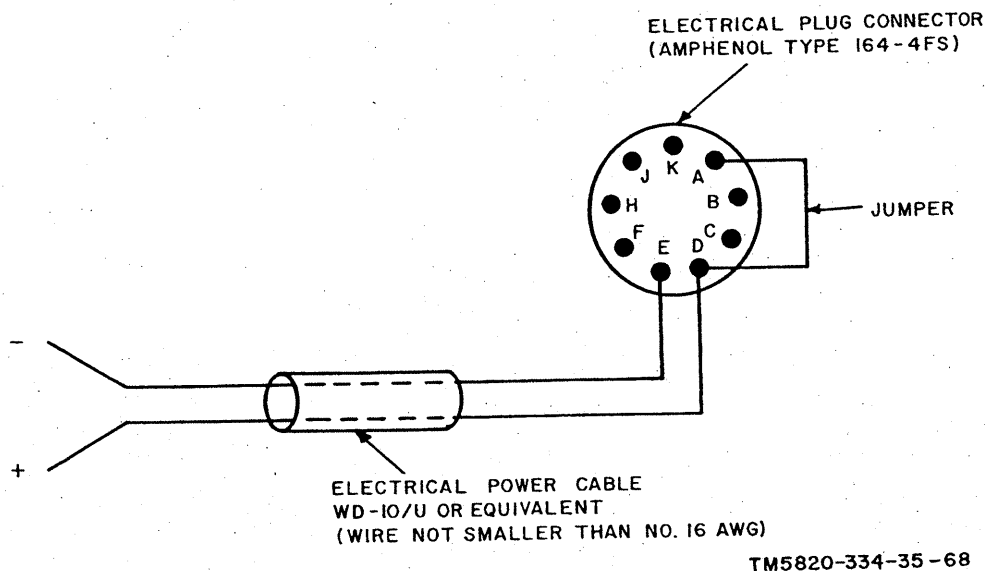

Figure 68. Power cable assembly wiring diagram.
c. A special-purpose cable assembly is required to connect Radio Receiver R-392/URR to a power source. Electrical Special Purpose Cable Assembly CX-1597/U, designed for this purpose, may be used if available, or a suitable cable assembly may be fabricated by use of the connector and electrical power cable (or equivalent) listed in the chart in paragraph 93b. A wiring diagram of the power cable assembly is given in figure 68.